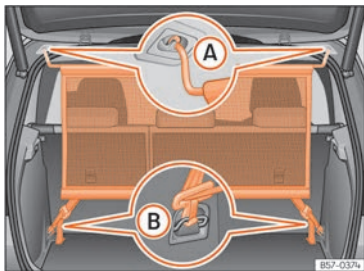

Fig. 127 Net partition fitted.
- Secure the net partition in the left housing of the roof »» Fig. 127 (A). Make sure to move the cross rod down beyond the upper position.
- Hook in the net partition on the rear right-hand side roof housing by pressing on the rod »» Fig. 127 (A).
- Secure two hooks of the partition net to the fastening rings of the boot »» Fig. 127 (B) and tighten the straps firmly.